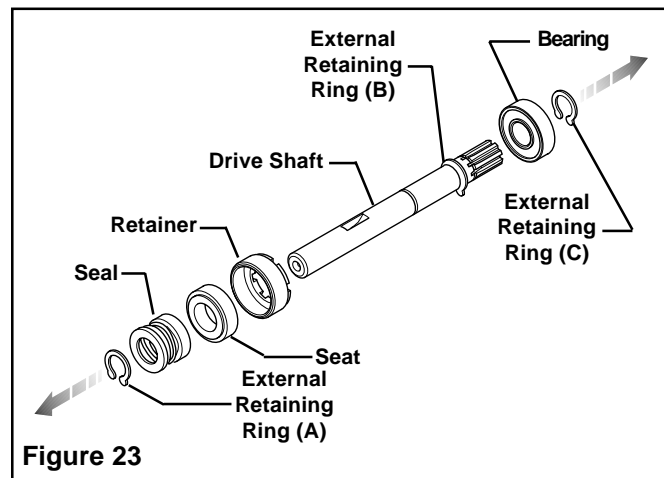

Figure 23
10. Remove the External Retaining Ring (A); then, remove the Seal, Seat, and Retainer from the Drive Shaft in the direction shown (See Figure 23).
11. Remove the External Retaining Ring (C); then, press the Bearing off the Drive Shaft in the direction shown (See Figure 23).